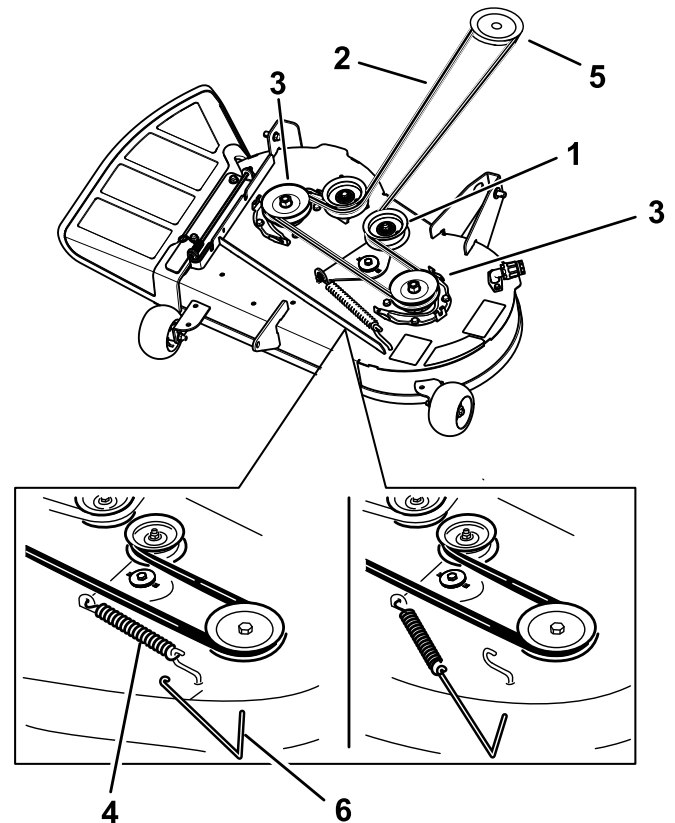

Figure 58
6. Route the new belt around the engine pulley and mower pulleys (Figure 58).
7. Using a spring-removal tool (Toro Part No. 92-5771), install the idler spring over the deck hook and place tension on the idler pulley and the mower belt (Figure 58).
5. Using a spring-removal tool (Toro Part No. 92-5771), remove the idler spring from the deck hook to remove tension on the idler pulley, and roll the belt off the pulleys (Figure 58).